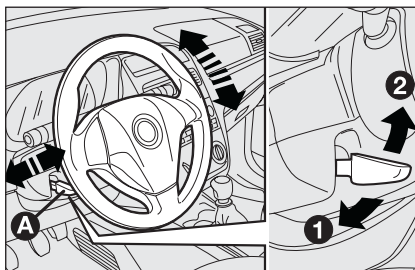

fig. 31
- ☐ release the lever **A**-fig. 31 pushing it forwards (position 2);